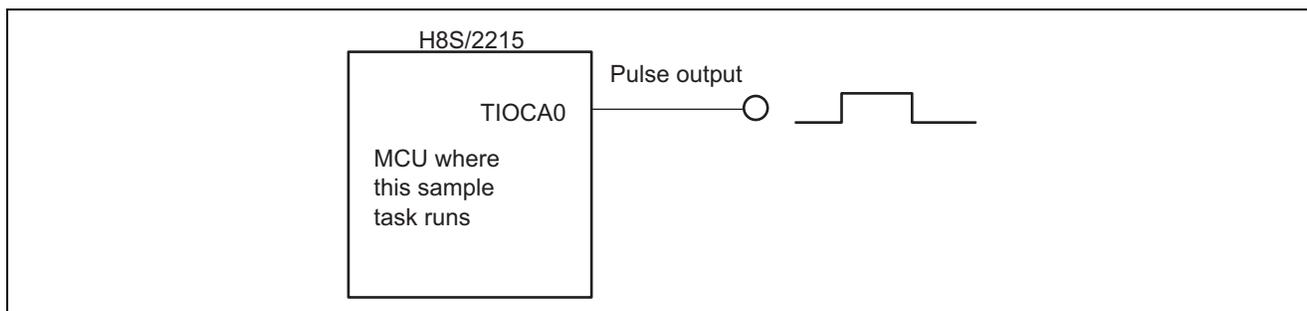

Figure 1 Example of Pulse Output
- As shown in figure 1, 50%-duty cycle pulse waveform is produced by toggling the output on compare-match, which is configured through the timer settings of the 16-bit timer pulse unit.